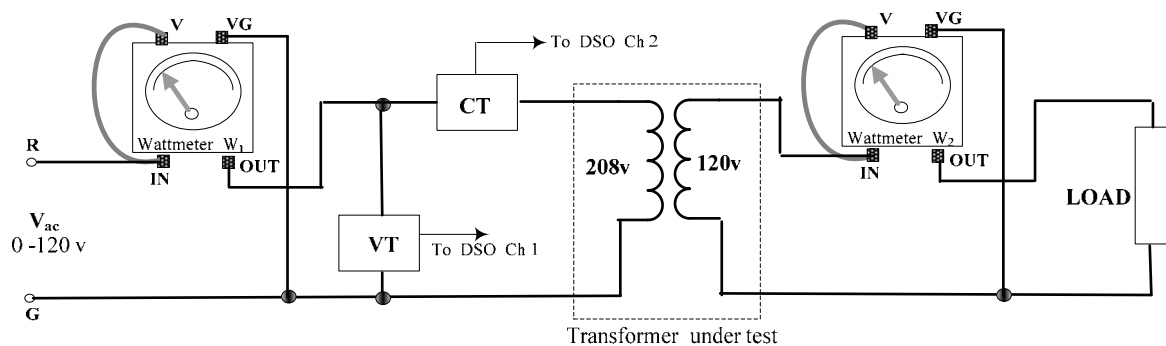
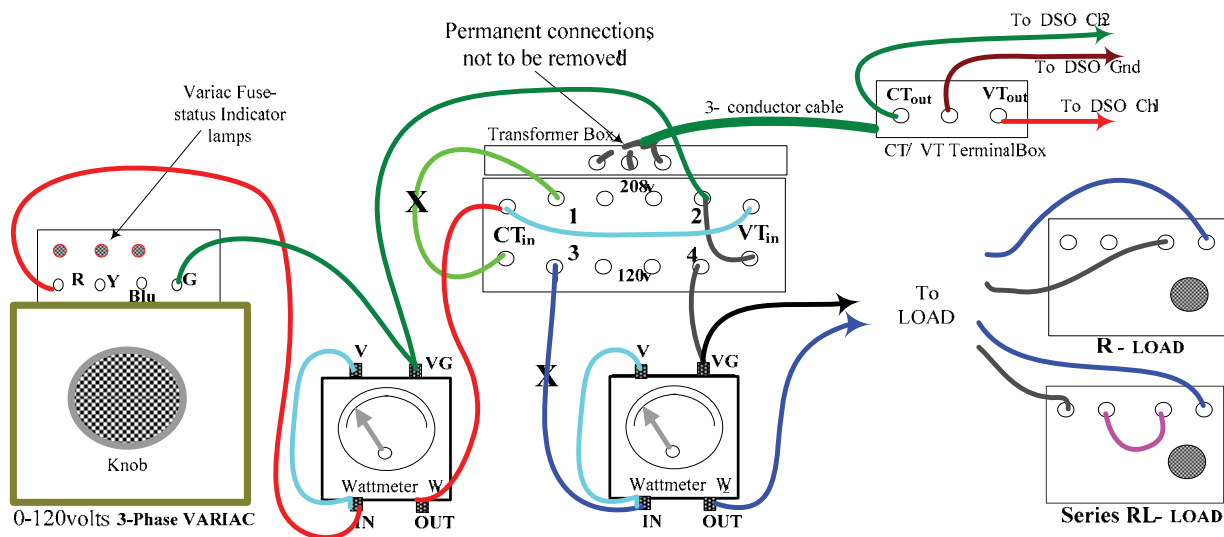

Figure 4.4: Basic single-phase transformer test circuit
Figure 4.5: Detailed connections corresponding to the test circuit of Figure 4.4
1. The test circuit is shown schematically in Figure 4.4 and a detailed wiring diagram is given in Figure 4.5. Wattmeter  $W_1$  and Wattmeter  $W_2$  measure the input power and load power, respectively. CT & VT are special-purpose ‘instrument-transformers’ which provide voltages proportional to their input current and voltage respectively, for displaying these parameters on the DSO, mainly for phaseshift measurements. [Nominal VT and CT sensitivities are **50mV/volt** and **105mV/Amp.**]
Connect the circuit shown in Figure 4.5, using the shortest available patchcord lengths to make connections between the various units. Set up the DSO to display the RMS values of the VT and CT outputs. Set the DSO bandwidth to 20 MHz to remove high-frequency ‘noise’ in the VT and CT signals as much as possible. Also turn on the V-Bar cursors on the DSO, for use in phase-shift measurements. **The transformer is used in the “step-down” mode for all the tests,** the nominal ratio being 208:120 or  $\sqrt{3}$  (=1.73).
- 2 Disconnect the load temporarily at the wattmeter end. Slowly turn the variac control to the fully clockwise position. With the Agilent 34405A DMM set in the ACV-Auto Mode (autoranging AC voltmeter), measure the **no-load** voltages across input terminals 1 & 2 and across output terminals 3 & 4 of the transformer box [see Figure 4.5] and enter them in the Lab Record. Leave the DMM connected to measure the secondary voltage, before proceeding to the next step.
4. Next, set the Fluke 8010A DMM as a 2000mA AC ammeter and use it to measure the primary-side and secondary-side currents by successively inserting it at the two points marked **X** in Figure 4.5 (see leads connected to points 1 & 3) (**The variac control should be reduced to zero every time before making changes such as insertion of the ammeter etc . The secondary voltage indicated by the Agilent DMM (see end of Step 2) can be used as a reference to return to the same variac setting.**)
6. Repeat Steps 3, 4 and 5 above with a series-RL load connected (see load connection in the figure). Set  $R$  to a value calculated to yield a theoretical power factor of 0.5 : Since the power-factor  $PF = \cos(\tan^{-1}\omega L/R)$ , a  $PF = 0.5$  requires  $R = \omega L / \tan 60^\circ = (377)(0.2) / 1.732 \approx 43.5 \Omega$  }.